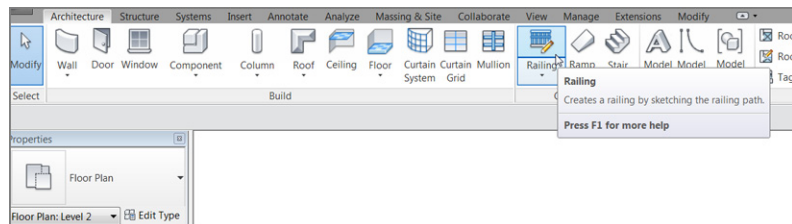

FIGURE 10.23: Click the Railing button on the Circulation panel of the Architecture tab.
2. On the Architecture tab, click the Railing button, as shown in Figure 10.23.